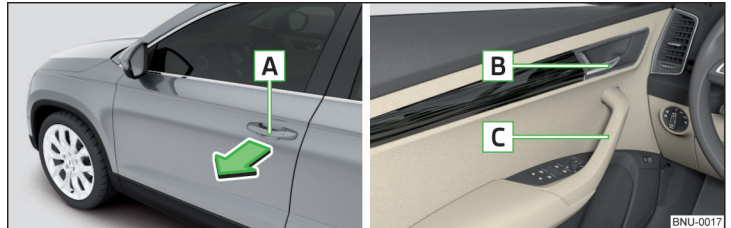

Fig. 51 Door handle/door opening lever
- To **open from outside**, unlock the vehicle and pull the door handle **A** in the direction of arrow » Fig. 51.